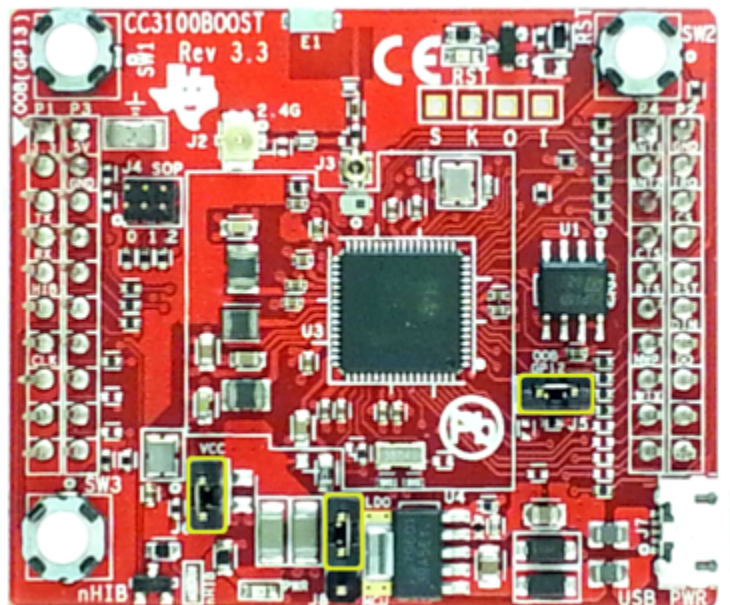

Figure 9. CC3100BOOST
1. The jumpers on the CC3100BOOST should be connected as shown in Figure 9.